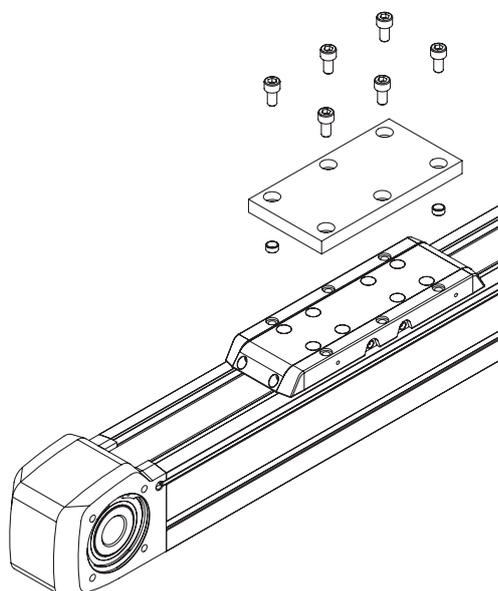
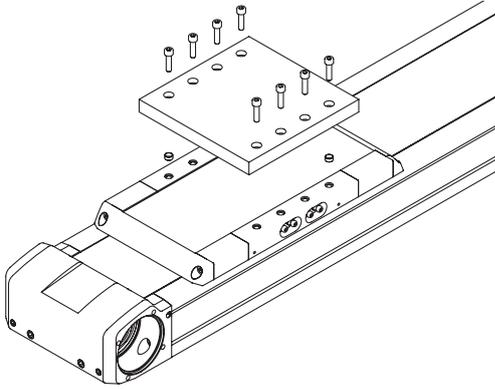
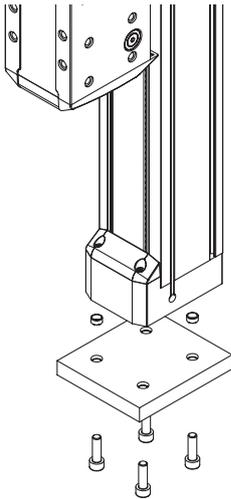

Fig. 6.34 Securing the load with centring sleeves (HM-B)
Fig. 6.35 Securing the load with centring sleeves (HT-B)
Fig. 6.36 Securing the load with centring sleeves (HC-B)
- ▶ If necessary, use centring sleeves (see Fig. 6.34, Fig. 6.35 and Fig. 6.36).